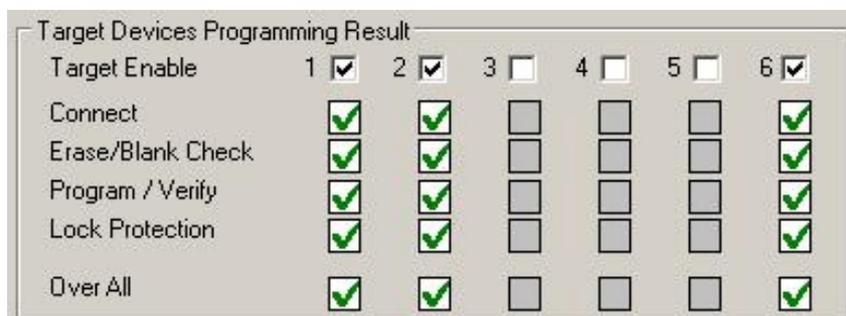

Figure 3-5
In the **Target Device Programming Result** (Figure 3-5) should be displayed all OK icons if all targets are programmed and verified successfully. If programming process in one target failed (eg. erase failed) then process in all other targets is continued as long as minimum one target is programmed without errors. At the end one programmer target without errors will have green (OK) icon, while others - red (ERROR) icons in location where the errors has been detected.